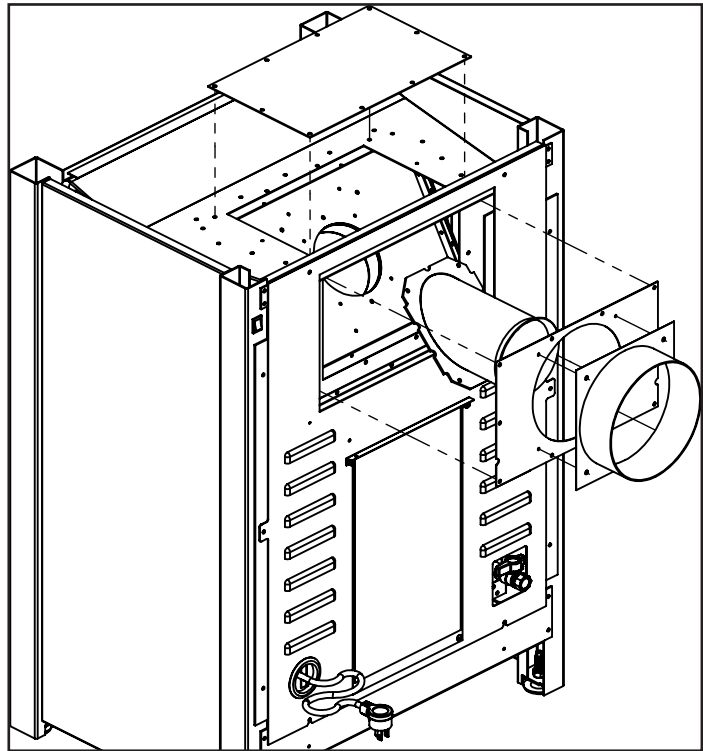

Figure 19. Vent Conversion - Step 3
Step 3: Switch the removed parts around as shown in Figure 19 and re-install all 28 screws. To correctly install the base plate keep the locating notch on each side at the bottom. Also note the exhaust spigot uses a lower set of holes when setup as a rear vent.